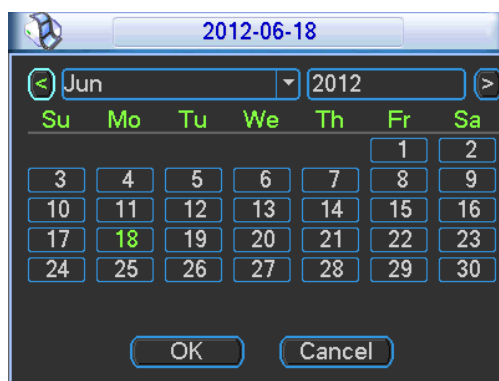

Figure 6-28
- Record types: There are four types: regular, motion detection (MD), Alarm, MD & alarm.
- Holiday setting: Click it you can see an interface shown as in Figure 6-28. Here you can set holiday date. Check the box, it means current channel shall record as your holiday setup. Please go to the Period interface to set the holiday date record setup.